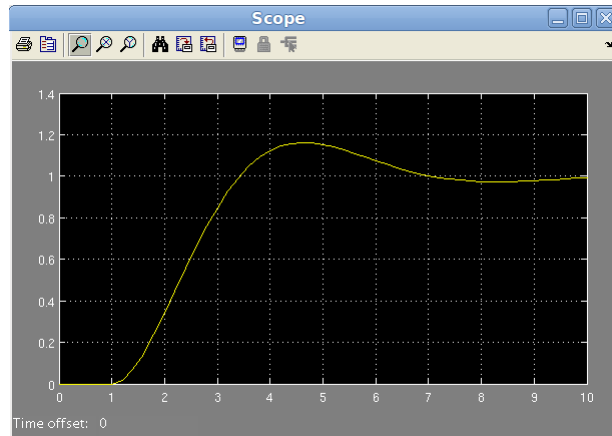

Figure 5: Simulation result
8. Start the simulation by choosing **Simulation -> Start** in the menu and double click on the **Scope** to display the result. To zoom the curve properly, right click on it and choose **Autoscale**. The result should look like Figure 5.